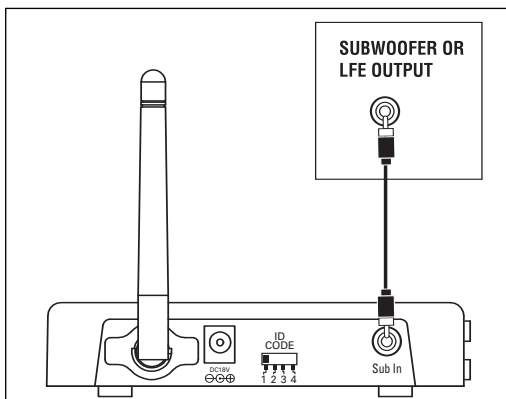

Figure 21: Wireless transmitter rear-panel connection
1. Connect an RCA patch cable from the Subwoofer or LFE output on the processor/receiver to the Sub In connector on the B120 rear panel, as shown in Figure 21.